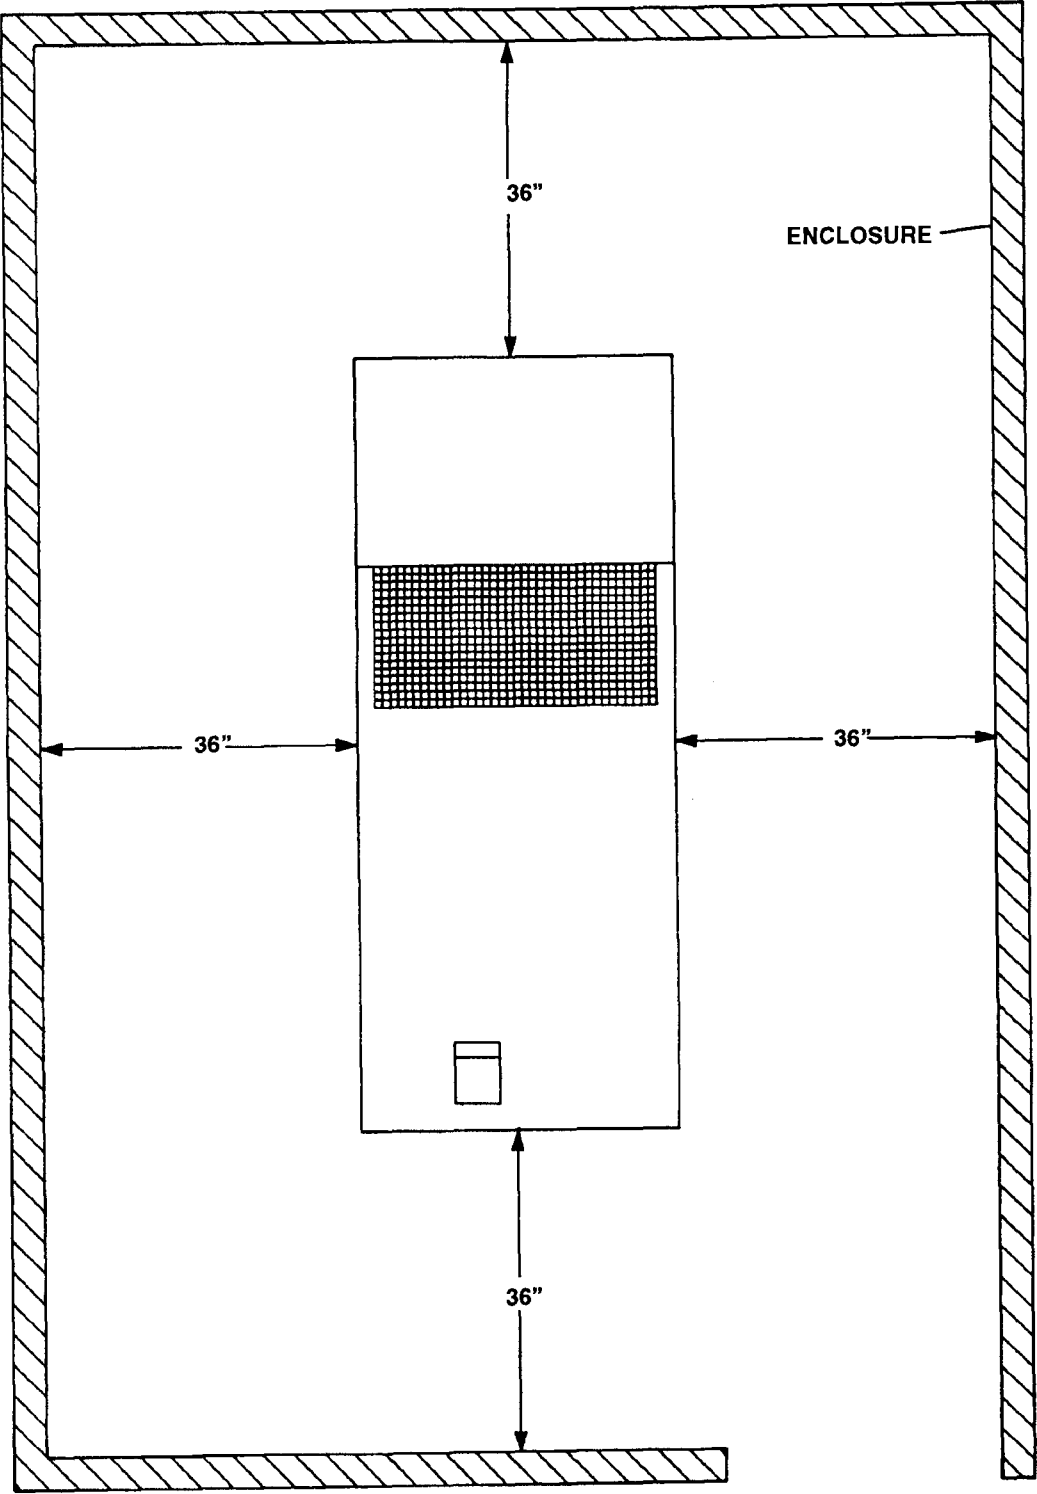

FIGURE 2-2. Minimum Enclosure Clearance Measurements
- b. Allow space on all sides for service and maintenance. Refer to FIGURE 2-2 for minimum clearance measurements.
- h. Allow space on all sides for service and maintenance. Refer to FIGURE 2-2 for minimum clearance measurements.